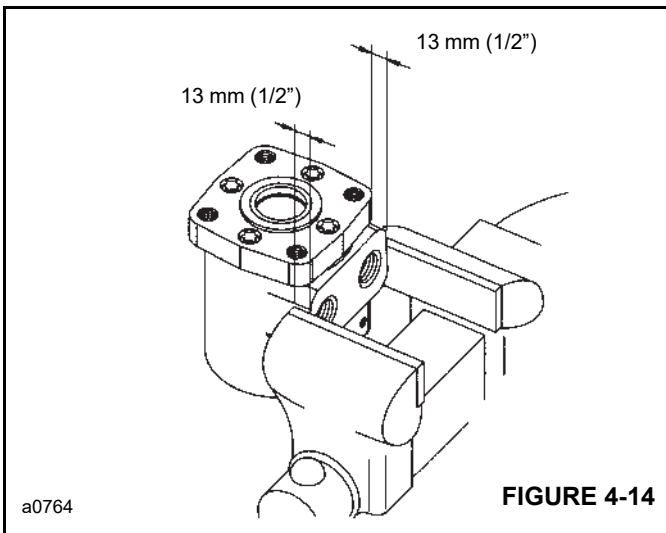

FIGURE 4-14
3. Remove end cap (17). Remove and discard seal (13) from the end cap.
4. Remove gerotor (16). Remove and discard seal (13) from the gerotor.
6. Remove drive shaft (14).
7. Remove spacer plate (15).
8. Remove seal 13 from housing (10).
9. Remove output shaft (9) from housing (10).
10. Remove needle thrust bearing (8) from shaft or housing.
11. Reposition the motor in the vice. Clamp across ports Figure 4-14. DO NOT clamp on housing. Excessive clamping pressure on side of housing causes distortion.